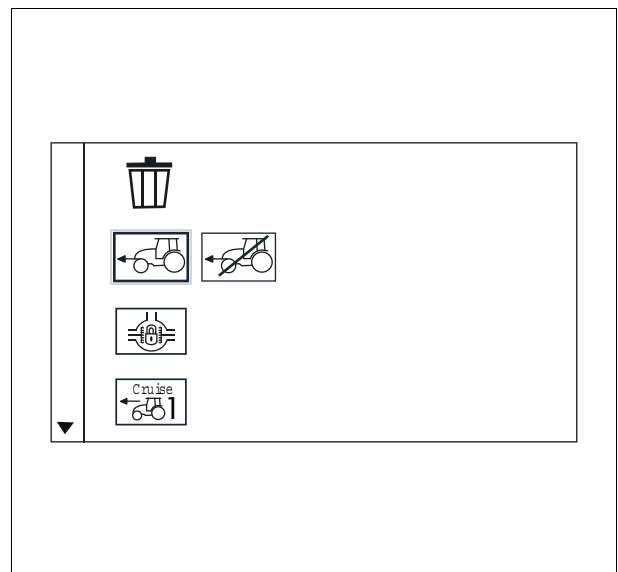

Fig. 9.
1. Bring up the program modification view *fig. 9*.